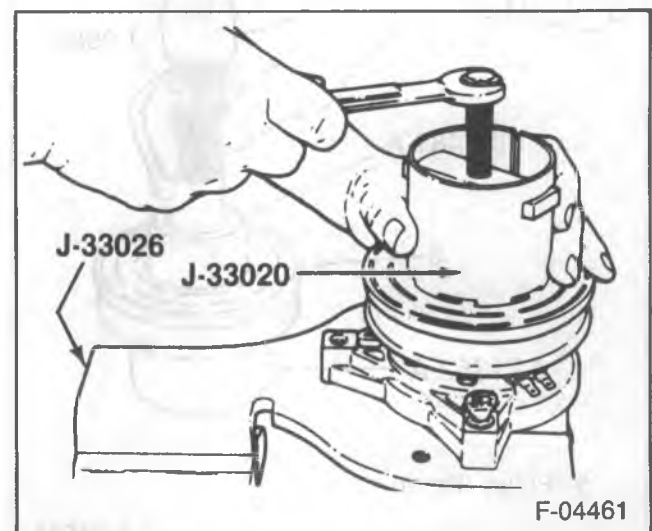

Figure 11 — Installing J-33020 in the Pulley Rotor Slots
- Install J 33020 tangs into the inner circle of slots in the pulley (5) contact surface. Rotate J 33020 clockwise so the tangs will lock into the segments between the slots (figure 11).
- Hold J 33020 in place and tighten the puller screw against J 33023-A puller pilot to remove the pulley (5) (figures 11 and 12).